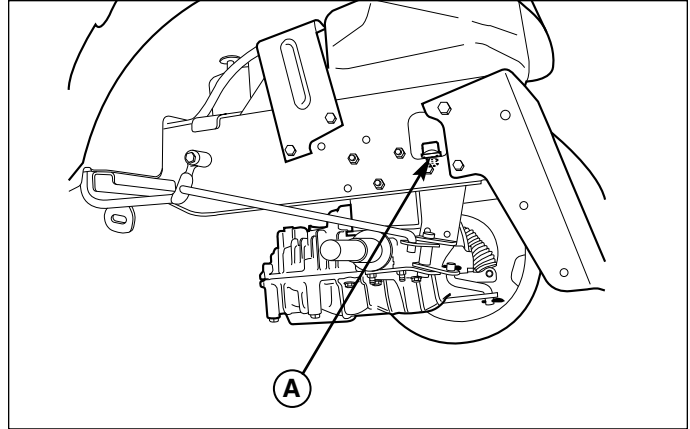

Figure 33. Differential Fill Plug Access
NOTE: Support the frame with jackstands and remove the left rear wheel for easier access to the differential fill plug (Figure 33).
7. Using a long funnel, add 2 quarts of oil to the differential fill (See Figure 33). The differential fill cap should have been removed earlier).
8. Reinstall the differential fill cap (A, Figure 33).